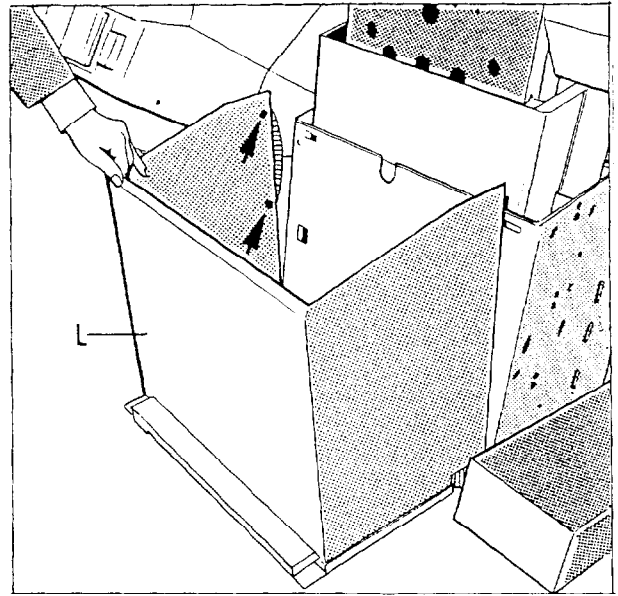

Fig. 10
- Attach the inner cover panel L to the lifting column (Fig.10).
- Let the 6 threaded bolts (↗/Fig.10) welded to the cover plate L engage in the lifting column chassis.